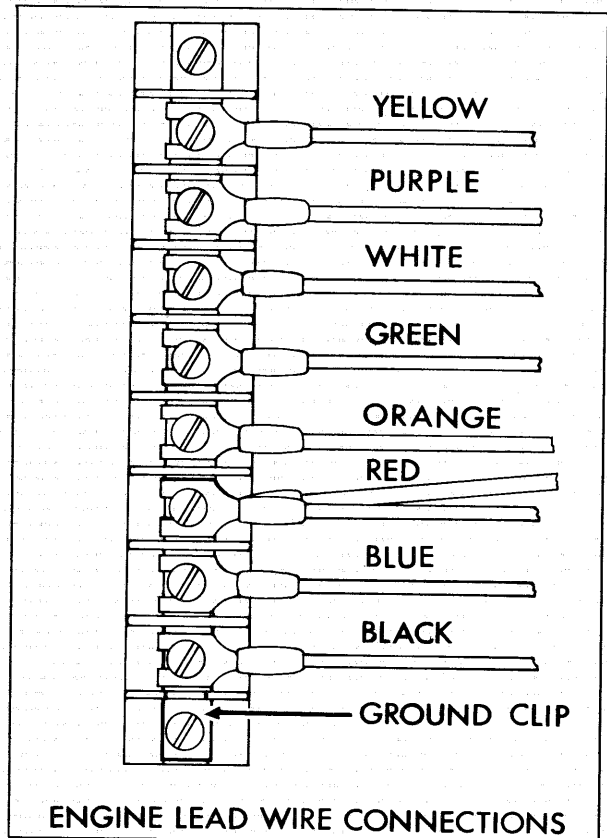

Figure 8 - Connecting Lead Wires to Terminal Block
- A. Install terminal block on terminal block bracket and secure with two (2) screws.
- B. Connect lead wires to terminal block as shown in figure 8.